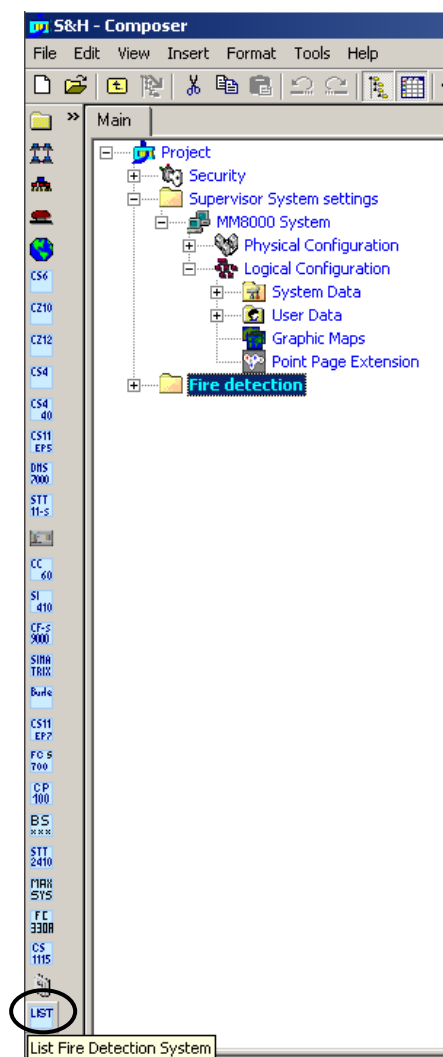

Fig. 12 Adding an LIST subsystem
2. Select the LIST icon  (see Fig. 12):